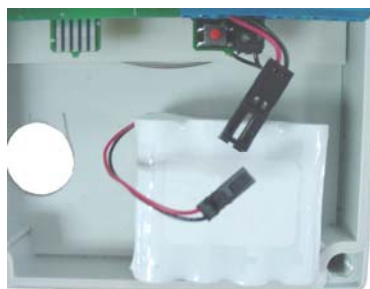

Figure 2-5 – Positioning the Battery Pack to Connect the Wires
- 2.4.3.2 Install the Battery Pack into the Transceiver Control Module enclosure using the Velcro provided (Figure 2-5).